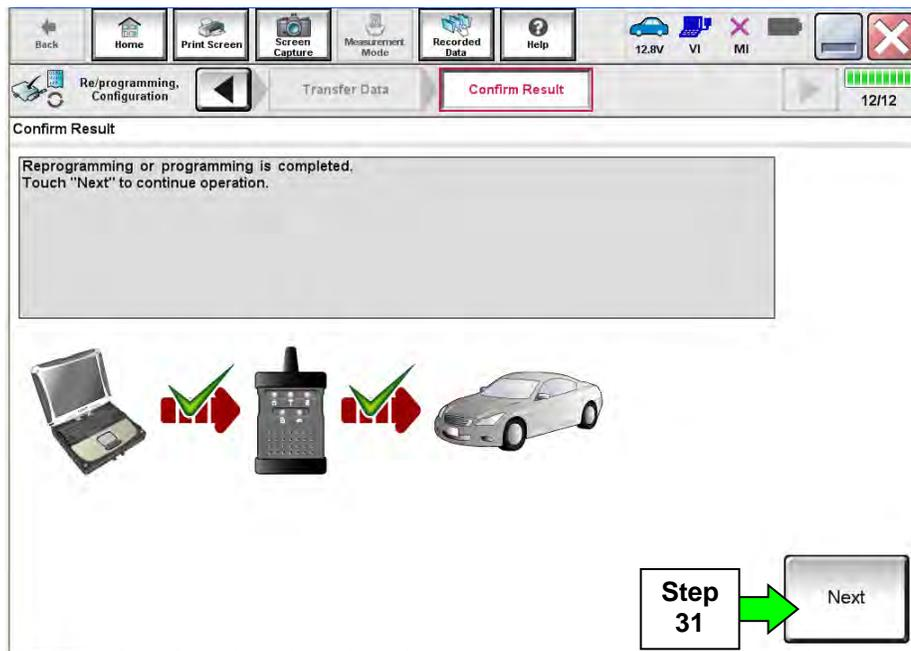

Figure 27
29. When the screen in Figure 27 displays, reprogramming is complete.
**NOTE:** If the screen in Figure 27 does not display (indicating that reprogramming did not complete), refer to ECM recovery on the next page.